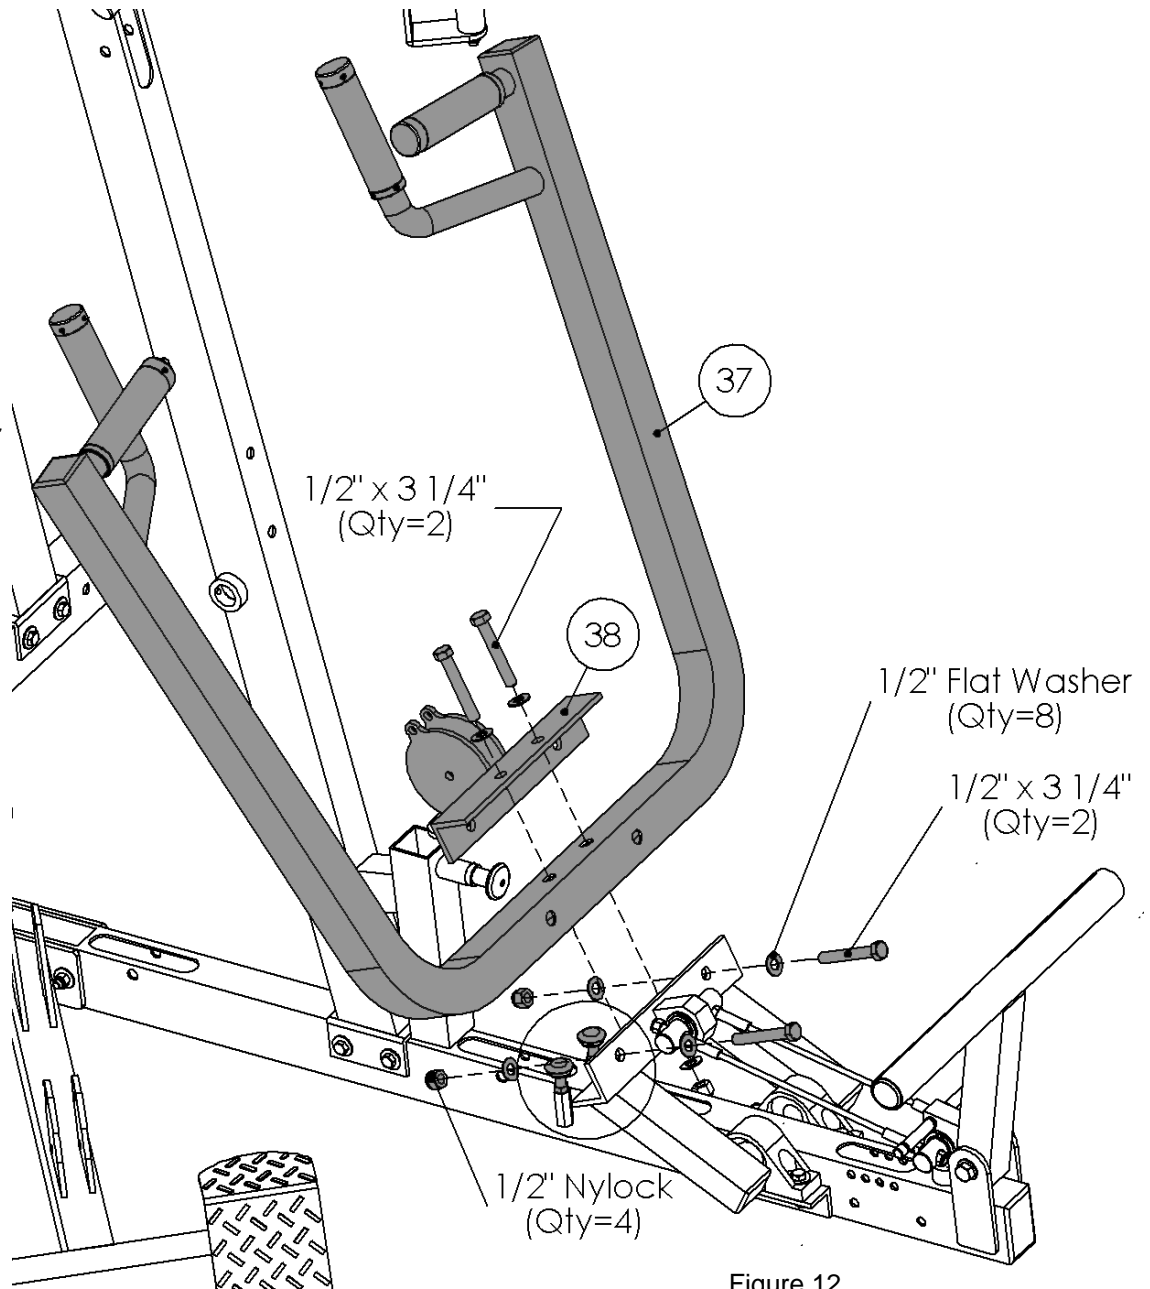

Figure 12
Tighten the four HCS 1/2"-13 x 3 1/4" Bolts (110) evenly until snug. Tighten the two shown going through the Chest Press Pulley Holder (38) first, then the remaining two shown going through the Chest Pivot (31) in Figure 12.